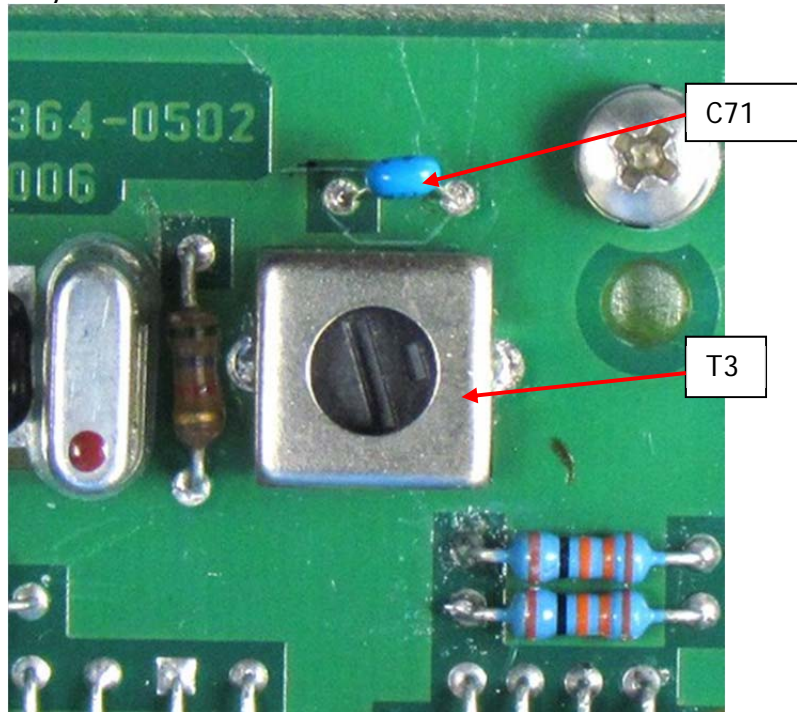

Figure 1
2. Figure 1.
- xi. Solder reworked part back into receiver board at T3 location shown in Figure 1.